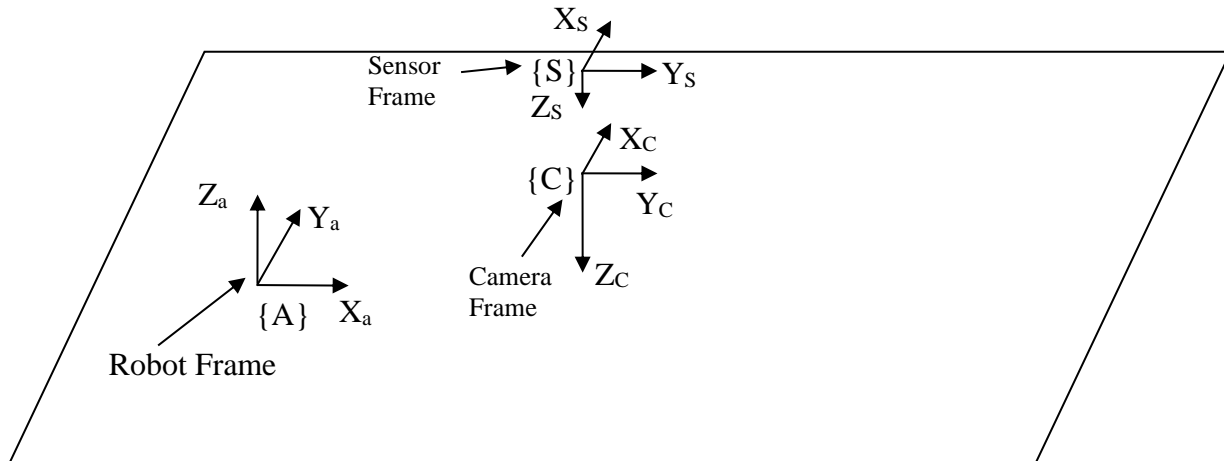

Figure 3: Camera and robot frames.
- Calculate the end effector position (x, y, z) by using the joint angles (in degrees) shown in Figure 3.
- After the code is compiled, the robot will move its end effector to draw the shape given in Figure 3.
- Note that you need to refer to Figure 3 to find w .